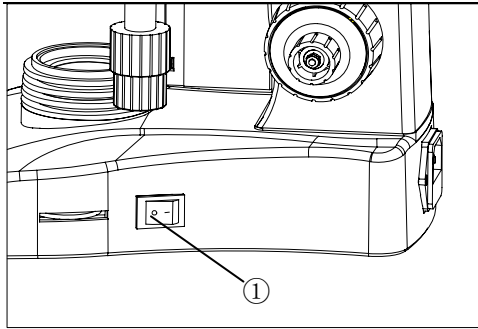

Fig.8
2.2.5 Connecting the power cord (Fig.8, 9,10)
2.2.6 Replacing the Fuse (Fig.8、 9、 10)